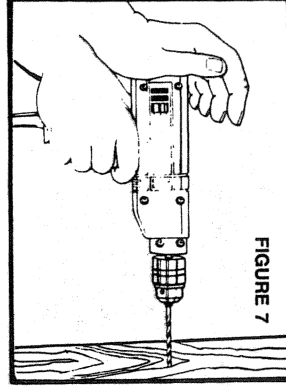

FIGURE 7
9. Apply pressure in a straight line with the bit. Use enough pressure to keep the bit biting but not so much as to stall the motor or deflect the bit. The back of the drill is contoured to fit your hand. Pressure applied to the back of the drill, as shown in **Figure 7**, puts the force directly behind the drill bit.